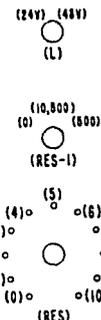

FIGURE 1
5.12 Using two ITE-9639 cords equipped with insulated alligator clips, connect plugs to jacks (O) and (T) of ITE-4011. Connect leads at other end to circuit cable leads as shown in Table 1 and Figure 1.
Figure 1 on page 3.